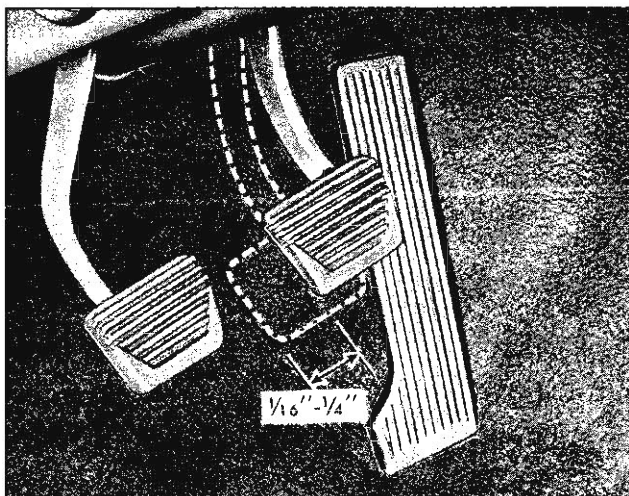

Fig. 6—Brake Pedal Free Movement
2. Turn push rod as required to provide correct adjustment. Movement of pedal pad before push rod contacts main cylinder piston must be 1/16" to 1/4" (fig. 6).